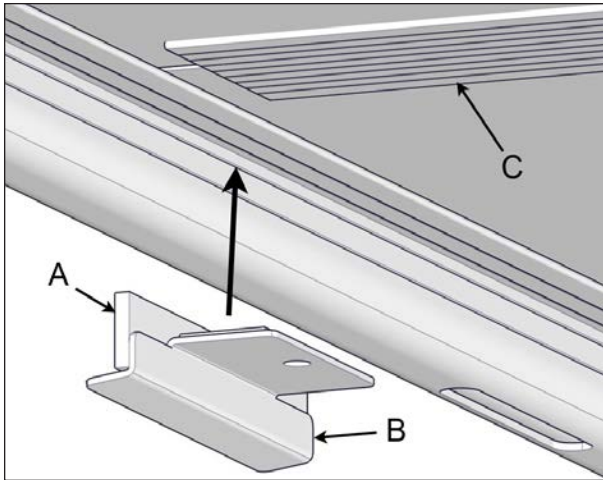

FIGURE 99: WIPER LOCATION
3. Under the cover, locate an I-beam and orientate the wide flap of the wiper outwards of the cover see Figure 99.